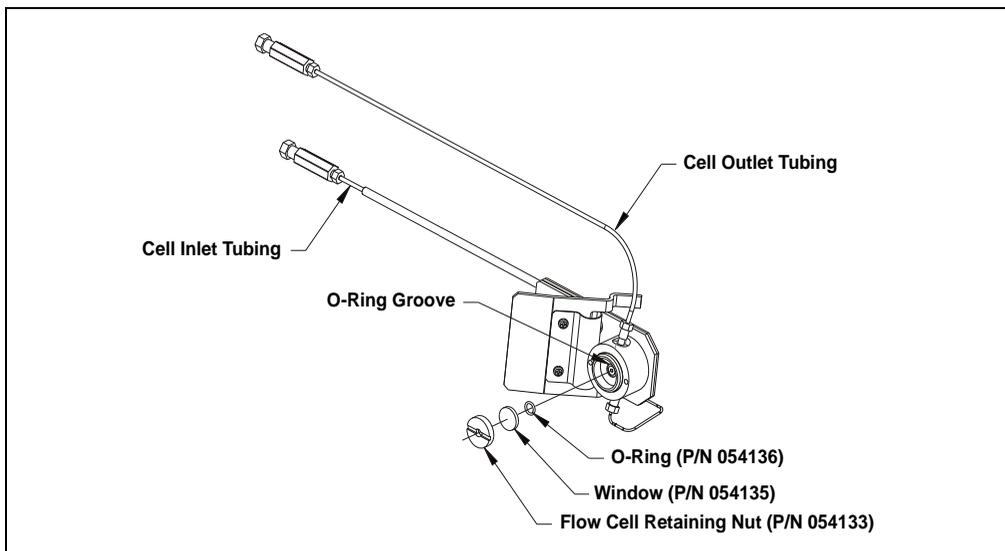

Figure 5-2. Replacing the Standard or Semi-Micro Flow Cell Windows (Light inlet side shown)
3. Using the windows replacement tool (P/N 060497), remove one of the flow cell retaining nuts from the cell (see Figure 5-2). (It does not matter which retaining nut is removed first.)
5. Use tweezers to carefully remove the O-ring from the groove (see Figure 5-2). **Do not scratch the groove.**